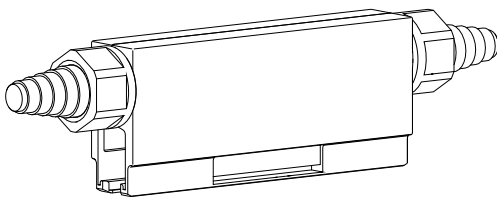

Fig. 29: Line feed (order number: 08-E015-0635)
- along the conductor rail (line feed) (see Fig. 29) or